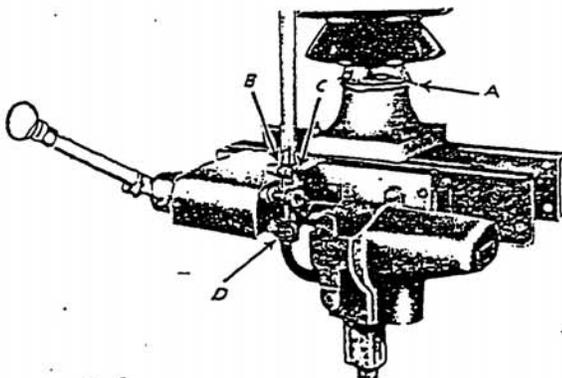

Fig. 1
1. If 69 kv switches use tilting rings, mount insulators on top of tilting rings, making certain that the tabs ("A", Fig. 1) of the tilting rings are opposite each other. Use tilting rings to plumb insulator stack. For all horizontal upright mounted switch above 69 kv, jackscrews are used. Mount cap and pin insulators on adapter or mount post insulators on adjusting plate as shown on switch assembly drawing. Use jackscrews to plumb insulator stack.
Place blade in socket and close switch. With the blade in the contacts and parallel to the insulator stack, adjust so that bottom contact area of blade tip is 1/16" above bottom of contact leaf by raising or lowering the blade as required (see Fig. 2). When the proper distance has been obtained, tighten the clamp bolt ("B", Fig. 1) on the socket. Center-punch blade through tapped hole ("C", Fig. 1) in the socket to mark spot for hole and open switch. Remove blade from socket and drill a 3/8" diameter hole through blade wall at center punch. Assemble blade in socket, lining up hole in blade with tapped hole in socket. Install 3/8-16 x 1" galvanized bolt and L. W. and tighten. Socket clamping bolt may now be tightened securely. Connect shunt to blade using U-bolt and